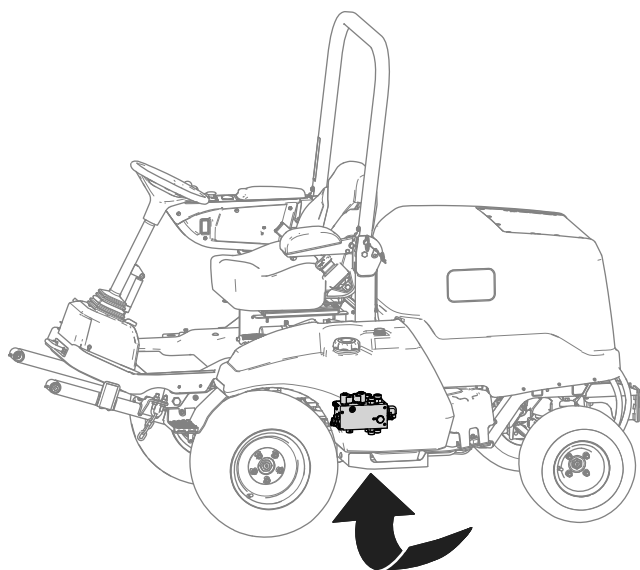

Figure 7
- A. Place a drain pan under the hydraulic manifold (shown in Figure 7).